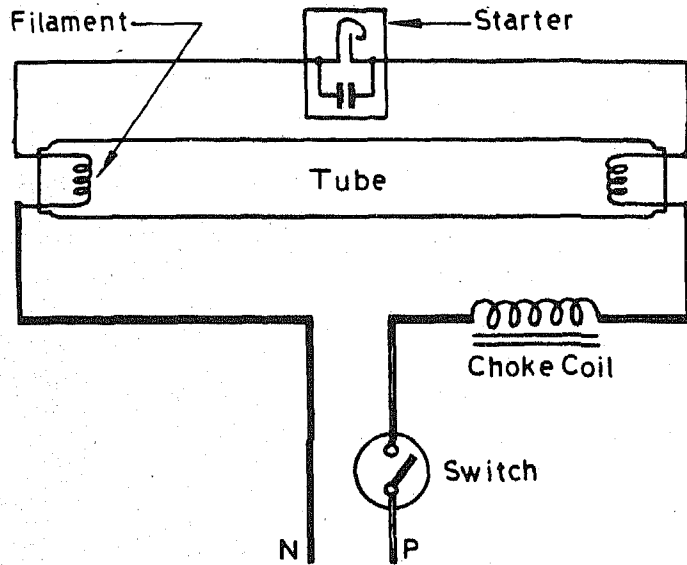

Fig. 24.1 Circuit for Fluorescent Tube Connections.
(vi) *Electrodes gets burnt when the tube is switched on:* Wrong wiring or choke may not be in the circuit. Connect wiring as per circuit diagram in Fig. 24.1 and correct the same.
- (iii) Connect all components by means of wires as per the circuit diagram in Fig. 24.1.